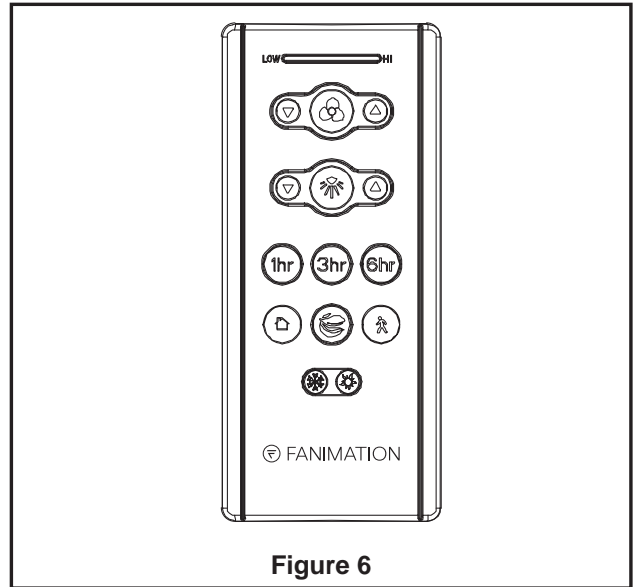

Figure 6
5. If your receiver slid out of the bracket at all while wiring your fan, slide it all the way into the hanger bracket, taking care not to pinch the wires. The canopy comes up to cover the receiver and hanger bracket. (Figure 6)
8. Remote functions: (Figure 6)